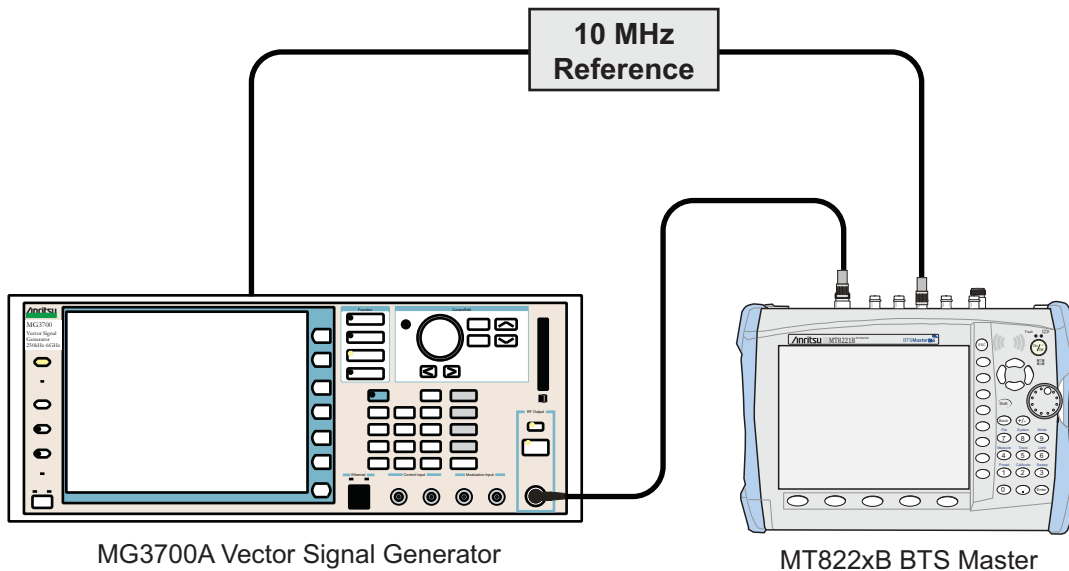

Figure 5-10. Mobile WiMAX Residual EVM and Frequency Error Test Setup
1. Connect the 10 MHz Reference to the 10 MHz/5 MHz Ref Input of the MG3700A and to the Ext Ref In of the MT822xB as shown in Figure 5-10.